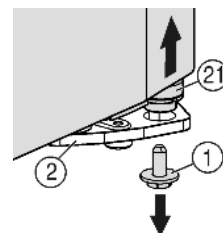
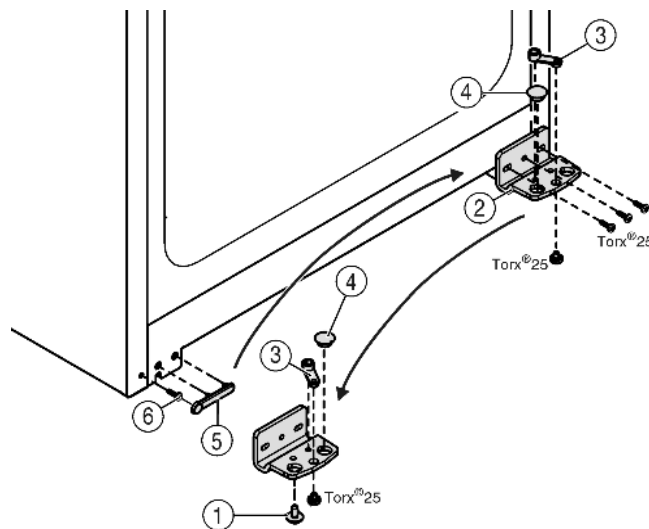

Fig. 5
Fig. 6
- ▶ The bearing pin Fig. 5 (21) should come out of the turn hinge Fig. 6 (2).
- ▶ If the bearing bolt Fig. 5 (21) doesn't undo press it out from underneath.
- ▶ Unscrew the turn hinge Fig. 6 (2).
- ▶ Unscrew the bearing element, Fig. 6 (3) transfer it to the opposite location hole of the turn hinge and screw it firmly into place.
- ▶ Take the stopper Fig. 6 (4) out of the turn hinge and transfer it to the receiving hole on the opposite side of the turn hinge.
- ▶ Carefully lift off the cover Fig. 6 (5) on the handle side.
- ▶ Undo the screw Fig. 6 (6) and transfer it to the opposite side.
- ▶ Put the cover Fig. 6 (5) back on.
- ▶ Screw the turn hinge Fig. 6 (2) firmly into place on the new hinge side (**with 4 Nm**), possibly using a power screwdriver.
- ▶ Insert the securing screw *Fig. 5 (1)* at the bottom into the bearing pin and tighten it (**with 4 Nm**).